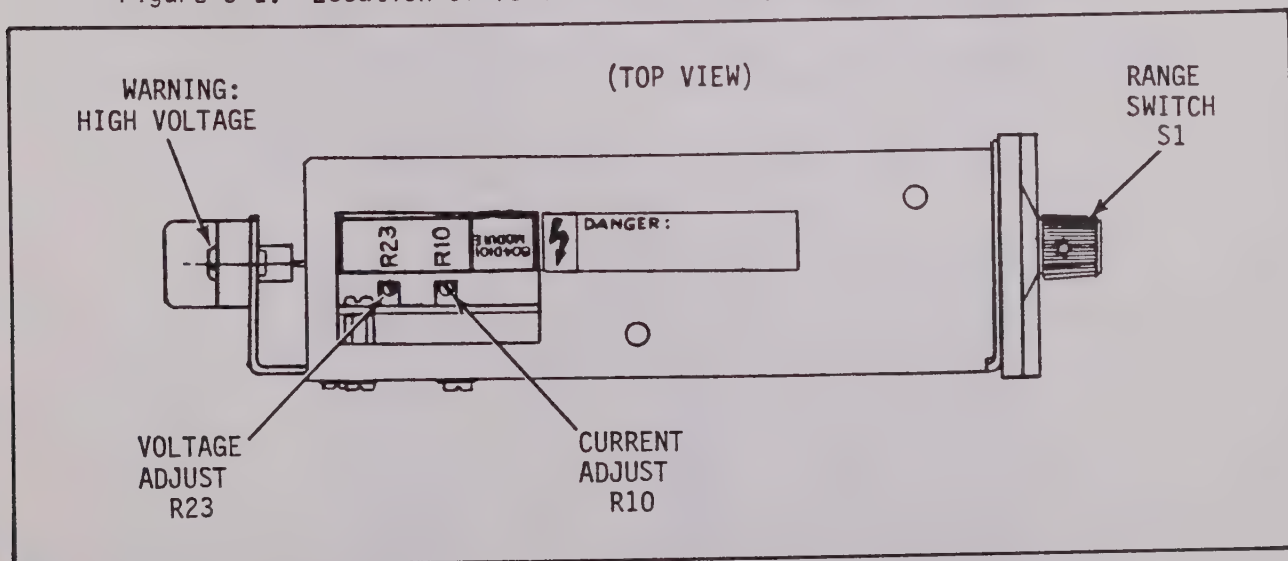

Figure 5-2. Location of Adjustments on Ammeter/Voltmeter Module.
(2) Remove rear-panel jumper (W101) from Module Output terminal, and connect DVM across this terminal and "COM" terminal. Turn on power and permit recorder to warm up.
(3) Place front-panel RANGE switch in its "OFF/ZERO" position. DVM should read 0.00V, $\pm 4.0mV$ maximum offset.
(4) Place RANGE switch in its "1000 AMPS" position and connect AC current standard across Current Transformer Input connector on rear panel.
(5) Set output of standard for 1.000A and apply signal to module. Carefully reset CURRENT ADJUST R10 (Figure 5-2) for DVM reading of +1.000V.